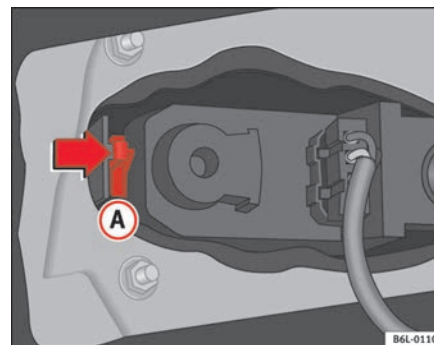

Fig. 155 Rear lights on frame
- Press the tab **(A)** ⇒ fig. 155 to release the lamp holder and remove it.